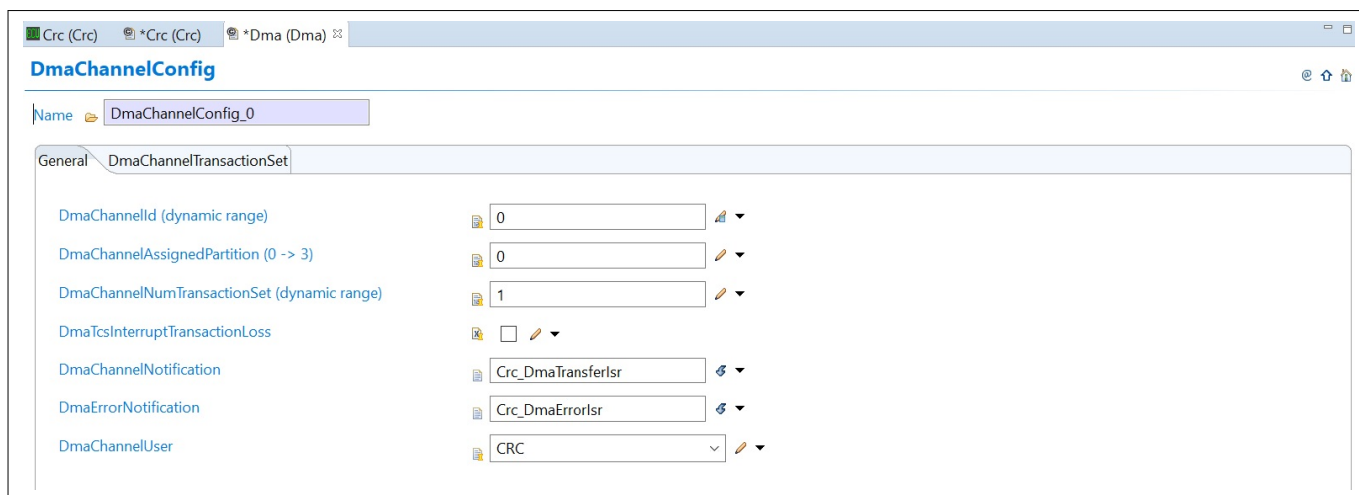

Figure 6 DMA Resource configuration
2. Add the DMA channel and configure the notification function pointers (Refer Figure 6). No other configurations are required in DMA. Transaction control set configurations for DMA are handled in CRC module and does not need any configuration in the DMA module.